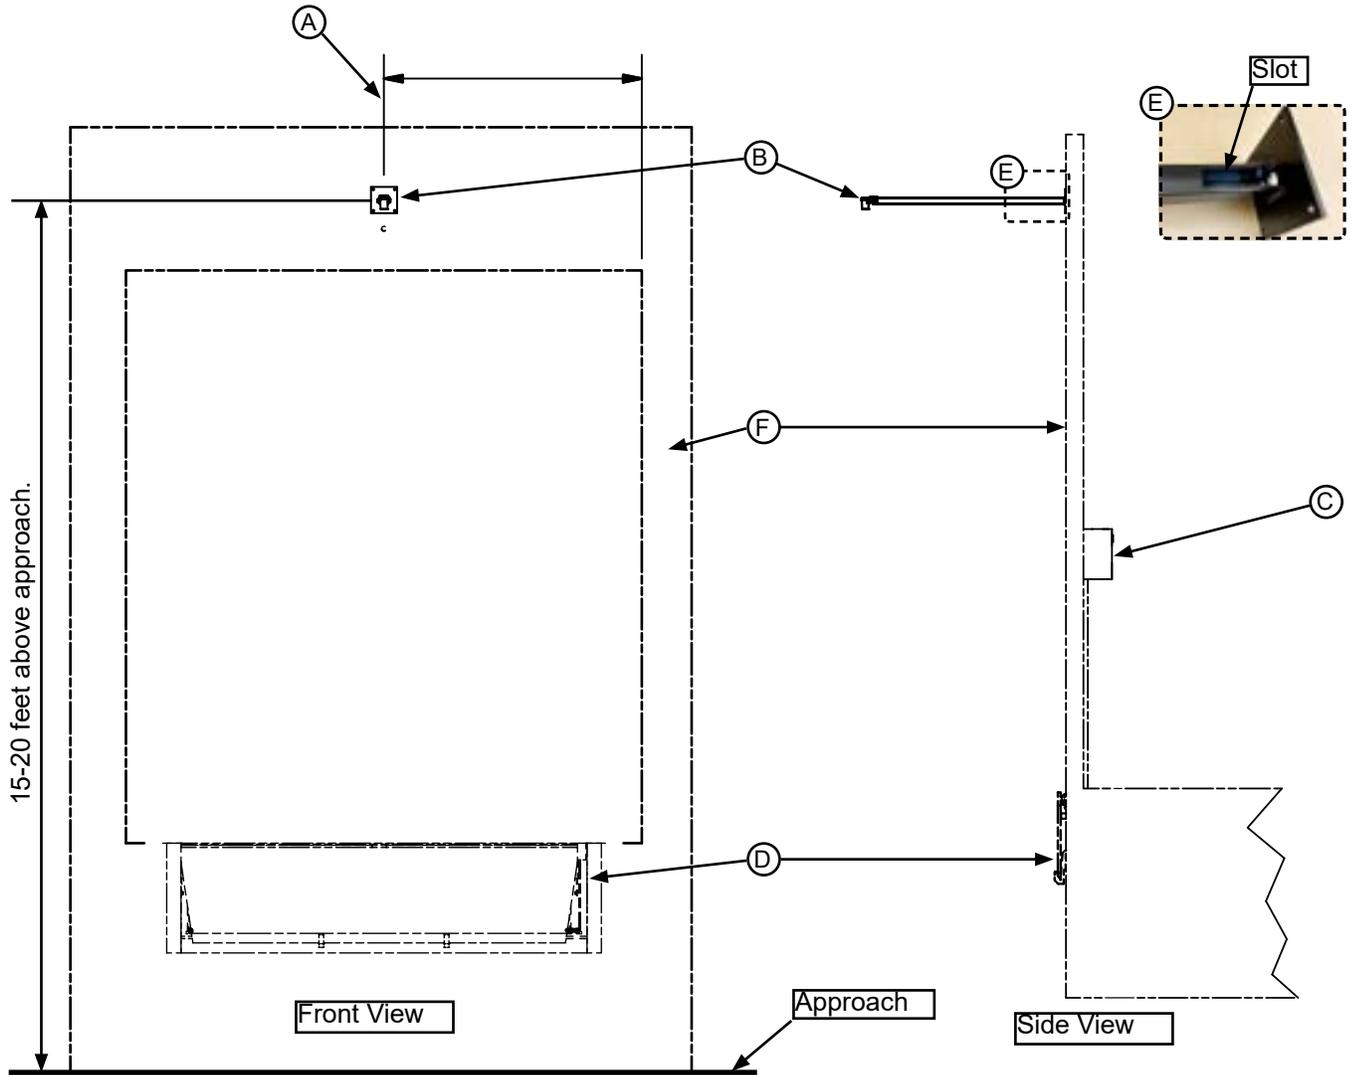

Figure 1
1. Locate the center line (**A**) above the door opening. The mounting bracket (**B**) can be mounted up to 12" off center to avoid obstructions. See **Figure 1**.